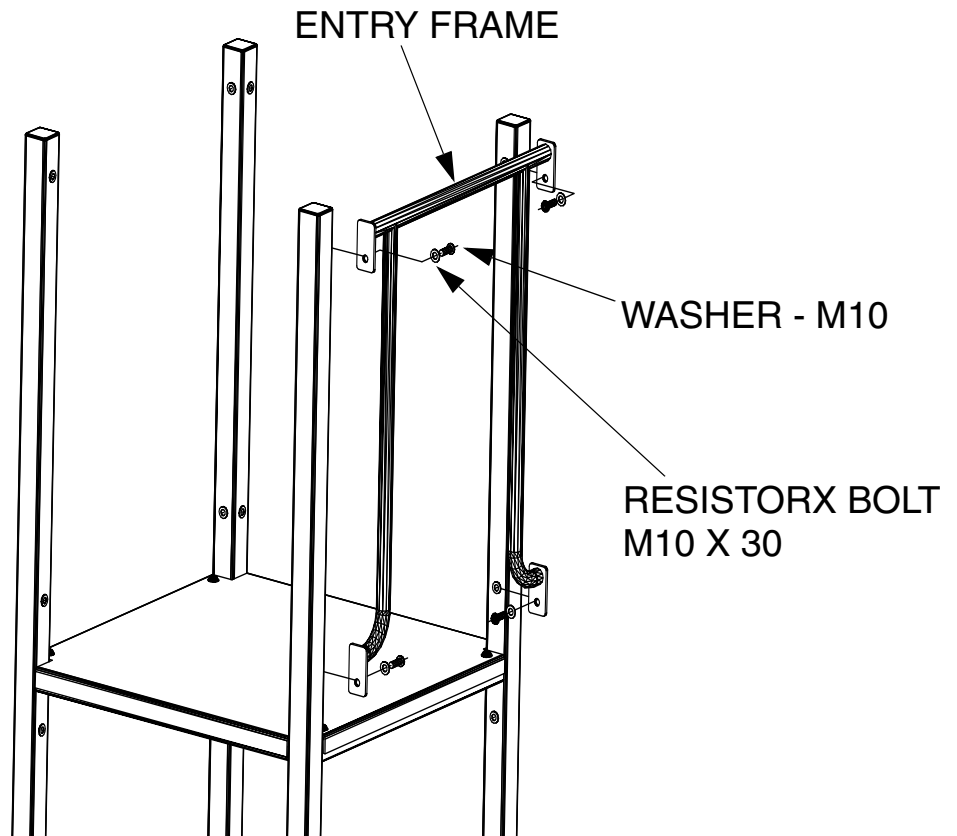

FIG.4 TYPICAL FIXING ARRANGEMENT FOR ENTRY FRAME
- iii) It is advisable to attach an entry frame or relevant panel to the tower installation at this stage using M10 x 30 lg. Resistorx bolts and washers. This will leave the structure more rigid, and help with assembly. (FIG.4 & 5).